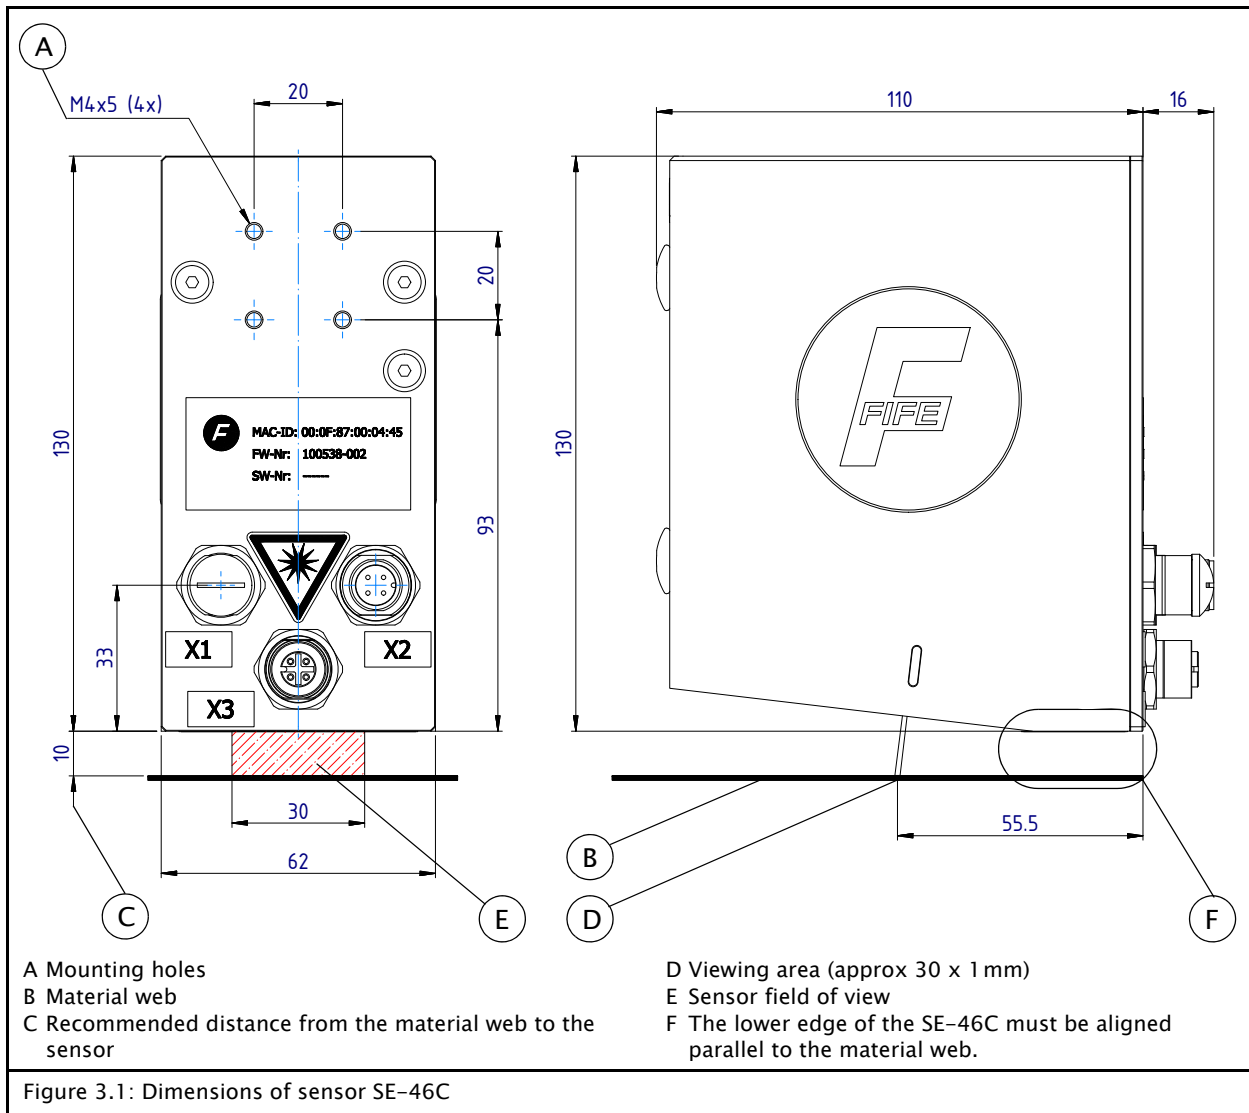

Figure 3.1: Dimensions of sensor SE-46C
- The material web must run parallel to the lower edge of the sensor (see figure 3.1)
To assist in mounting the SE-46C sensor, holes have been drilled in the housing (see A in figure 3.1). Together with various sensor bracket, this provides a wide range of installation options.